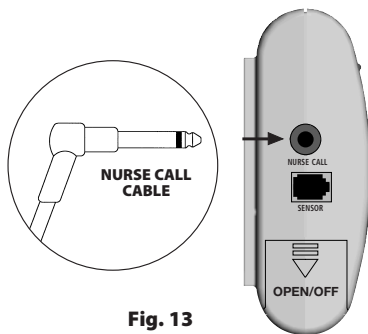

Fig. 13
1. Insert the Nurse Call Cable into the receptacle labeled "Nurse Call" on the left side of the unit (see Fig. 13).